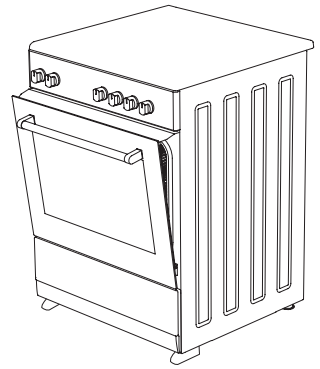

Figure 8
4. And then secure the safety panel in between oven and front cover by gently closing the cover. (figure 8)